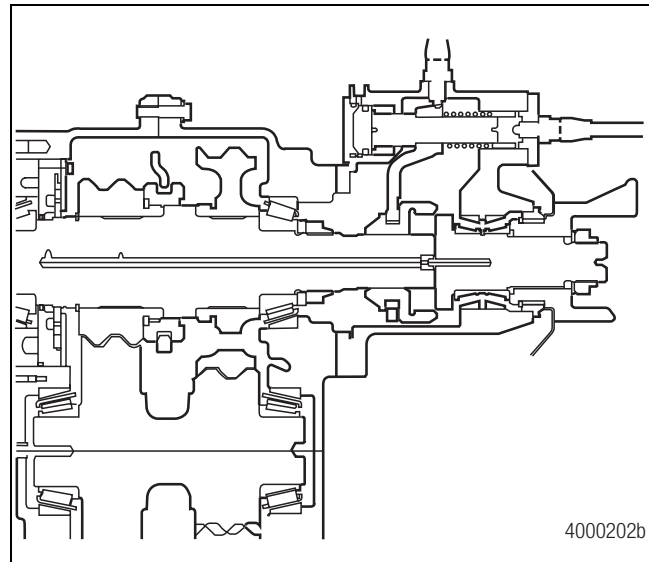

Figure 4.15
1. Rotate the transfer case in the repair stand so that the PTO assembly, if so equipped, is facing UPWARD. Figure 4.15.